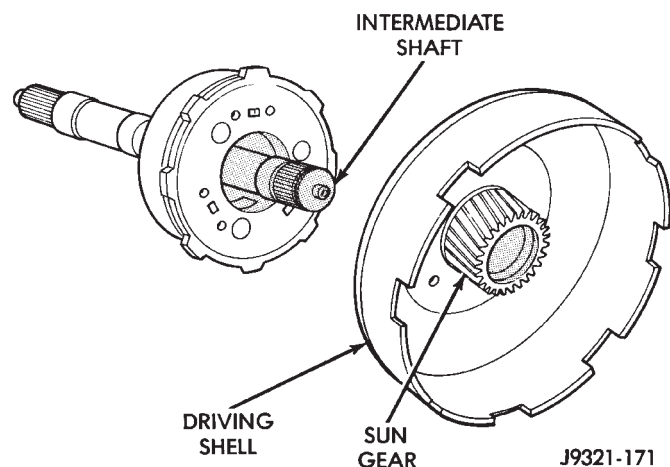

Fig. 175 Sun Gear And Driving Shell Removal
(5) Remove sun gear and driving shell as assembly (Fig. 175).